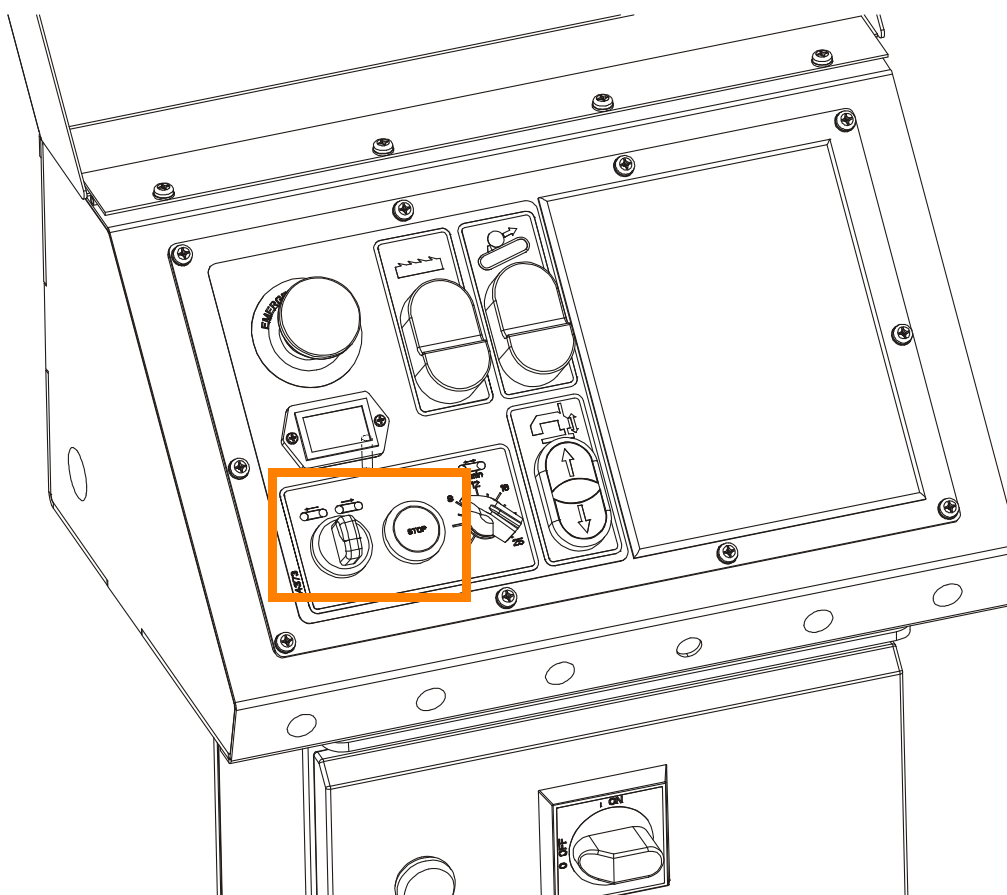

**FIG. 2-10**
**See Figure 2-10.** Start the blade motor. To do this, turn the main power switch to the “ON” position and then press the START button on the control panel (see the figure below). The motor should start and the blade should start spinning.